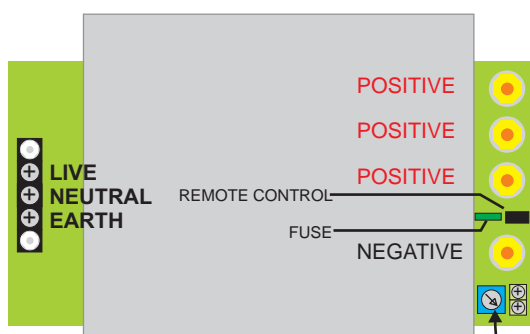

Fig. 1
- Before switching the charger on, it is important to set up the battery type. Please choose a battery type according to Fig.1. Sterling have supplied 7 different settings, and have tried to encompass all battery types and there charge rates, why the American settings differ from the European settings for the same batteries I have no idea, however we supply both, please have that argument with your battery supplier and not Sterling. If in doubt always chose the setting with the lower voltage until such time you can confirm the correct setting. As a rule of thumb, the higher the charge voltage the faster a battery will charge but the more gas may be produced. gassing of sealed batteries is not recommended